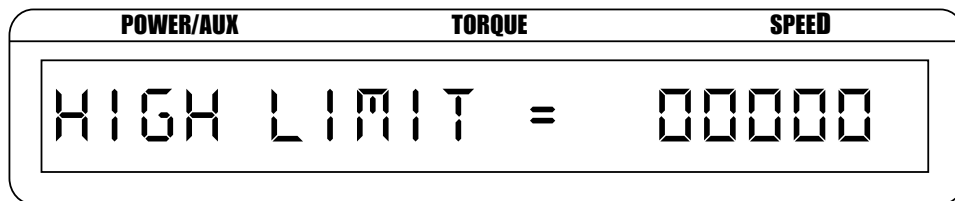

Figure 4-10 High Limit Setup Display
12. If ON was selected, press and release SHIFT. The High Limit Setup Display (as seen in Figure 4-10) appears.